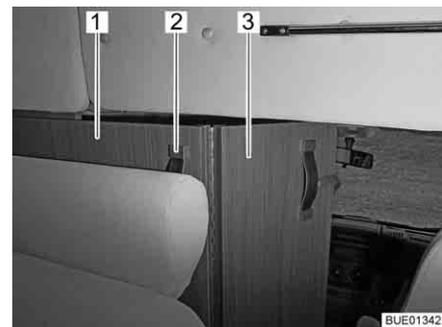

Fig. 42 Driver's cabin partition
- Grip the handle (Fig. 42,2) of the driver's cabin partition (Fig. 42,1) and pull it inwards until the edge of the driver's cabin partition is roughly level with the backrest of the bench seat (Fig. 42).
- Fold out the folding part of the driver's cabin partition (Fig. 42,3) between the seats of the driver's cabin.